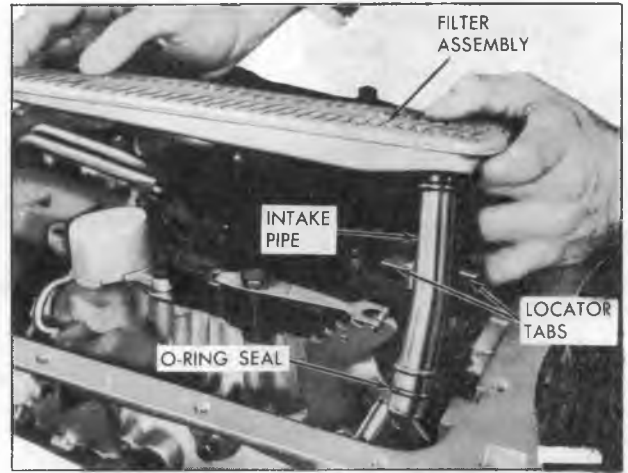

Figure 8—Removing Filter and O-Ring Assembly
7. Remove filter and intake pipe assembly from case and discard filter (fig. 8).